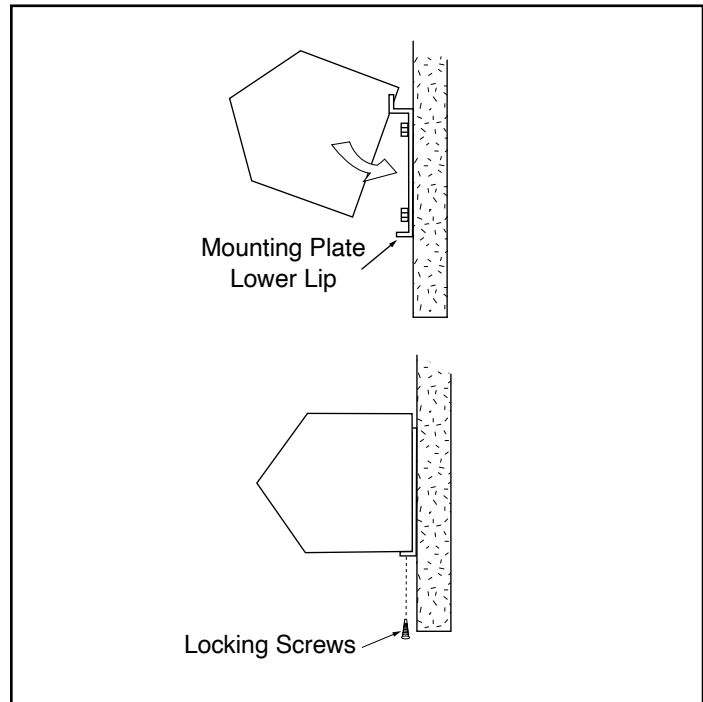

FIGURE 4 - Attaching Unit to Mounting Plate
1. Raise the unit over the opening (air nozzle facing down) and onto the mounting plate. Tilt the unit upward, matching the holes in the frame with the tabs on the mounting plate. **See FIGURE 4.**
See **FIGURE 4**.